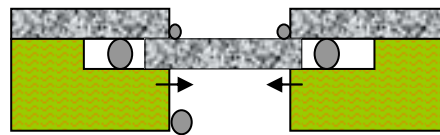
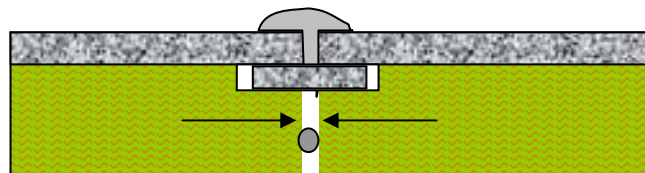

Fig 2
Fig 3
7. Apply acrylic adhesive to one of the grooves and firmly push the loose tongue home. Apply another bead into the adjoining groove, apply a third bead of adhesive along the MDF substrate approximately 3mm from the base and then gently bring the tops to within 3mm of one another. Apply a continuous bead down the entire length of the joint and down the front edge. See Fig 2. Draw the tops together with panel butting connectors and allow excess adhesive to form over the joint. See Fig 3.